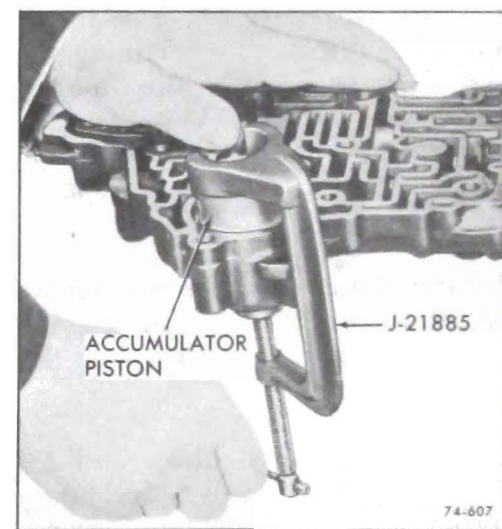

Figure 76-607
3. Install special Tool J-21885 on accumulator piston and remove retaining "E" ring. See Figure 76-607.